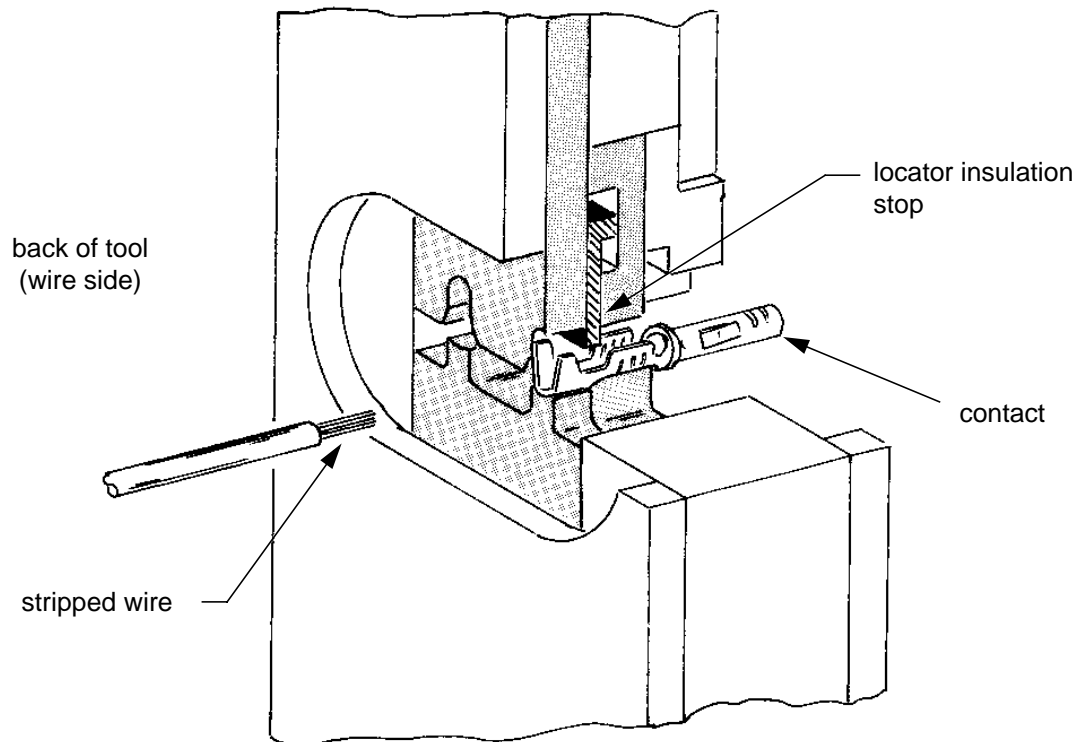

Figure 4 - Crimping Contacts
- Step 4. Insert the contact (insulation barrel first) into the front of the tool and position the contact in the crimp dies so that the locator/insulation stop enters the locator slot (see Figure 4). Ensure that the contact is inserted into the correct crimp section for the particular wire size to be crimped.